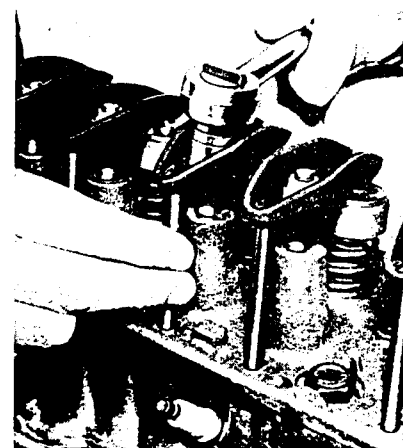

Figure 8-1-4
2. Turn adjusting nut until all lash is removed from valve train. This can be determined by checking push rod side play by hand while turning adjusting nut slowly (see Figure 8-1-4). At this point, turn adjusting nut one more turn to place the lifter plunger in center of its travel.